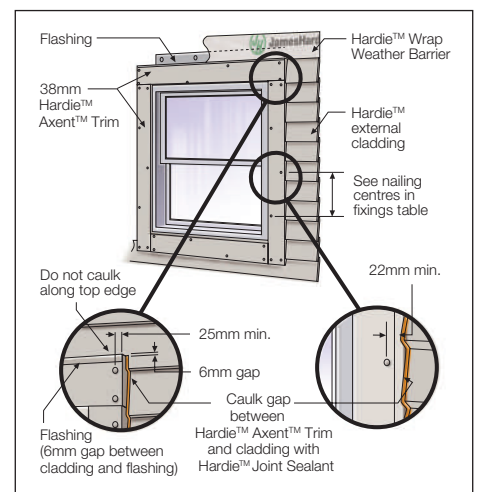

FIGURE 1 19MM AND 38MM HARDIE™ AXENT™ TRIM FIXING AROUND WINDOW
When installing Hardie™ Axent™ Trim around windows see Figure 1.
- When the cladding around the window is a flat sheet, the cladding can either be butted to the Hardie™ Axent™ Trim as shown in Figure 1 OR installed overlapping the Hardie™ Axent™ Trim.